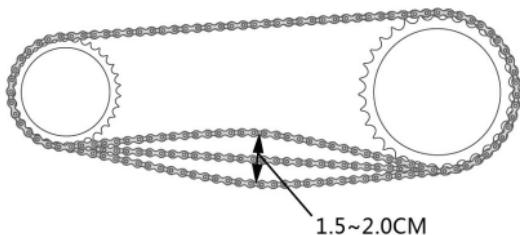

Figure 12
2. Pull the wheel backwards until there is 1.5~2.0cm of movement space in the chain (see figure 12).